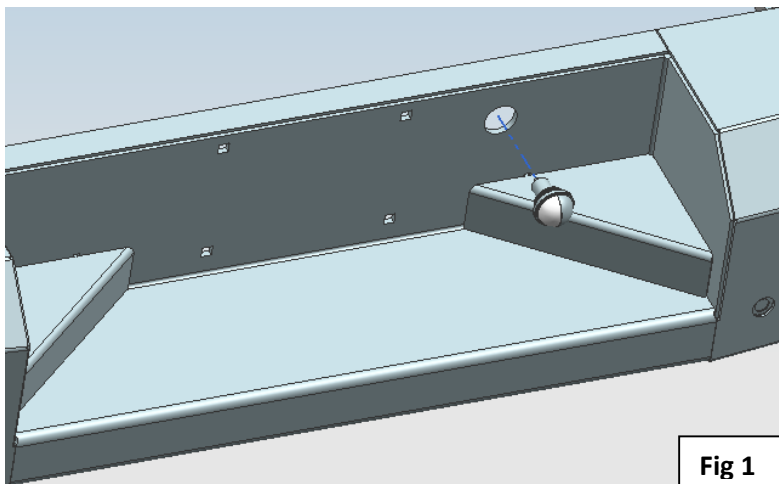

Fig 1
1. Install license plate light into the hole provided in the center section. The powder coating may need to be removed from the hole for proper grounding. Connect wire into the hot wire of OEM tag light circuit. Verify operation (**Fig 1**).